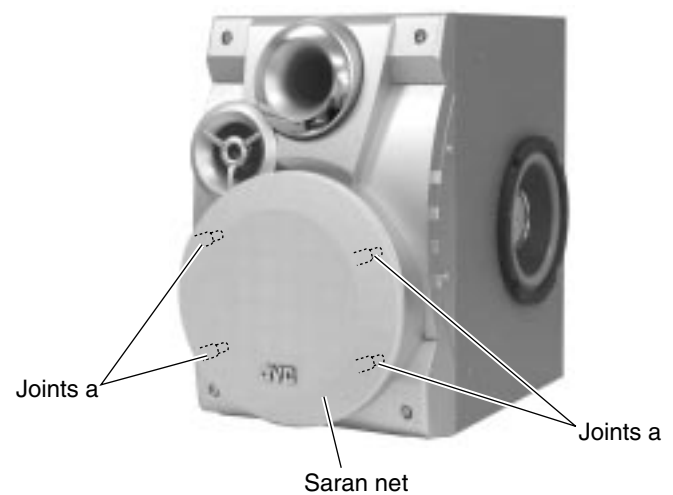

Fig.3
■ Removing the front cover (See Fig.3 to 5)